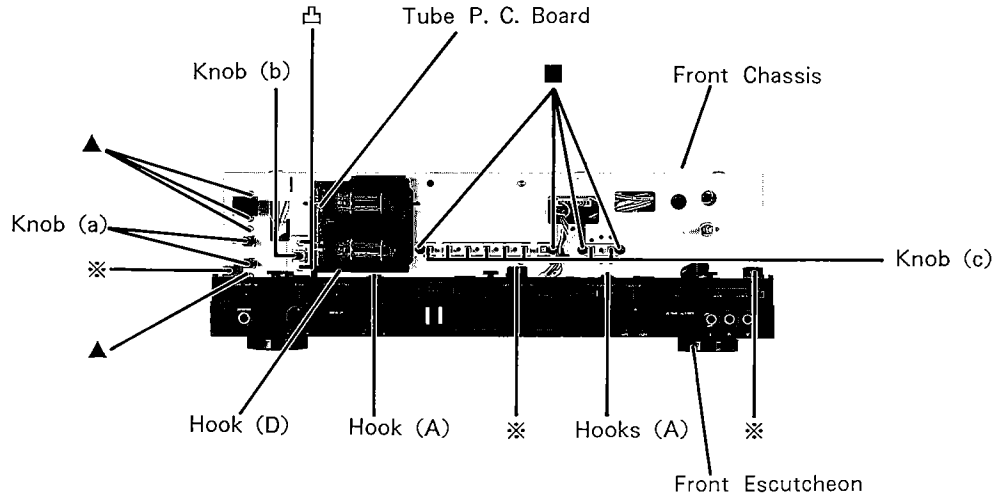

Figure 6
- (1) Remove two knobs (a) and remove four screws marked "▲" as shown in Figure 6.
- (2) Disconnect all wires from the AC P. C. Board.
- (1) Remove one knob (b) and remove two screws marked "凸" as shown in Figure 6.
- (2) Disconnect all wires from the Heat-up Switch P. C. Board.
- (2) Remove one hook (D) as shown in Figure 6.
- (3) Disconnect all wires from the Tube P. C. Board.
- (1) Remove four screws marked "■" and remove nine knobs (C) as shown in Figure 6.
- (2) Disconnect all wires from the REC P. C. Board.